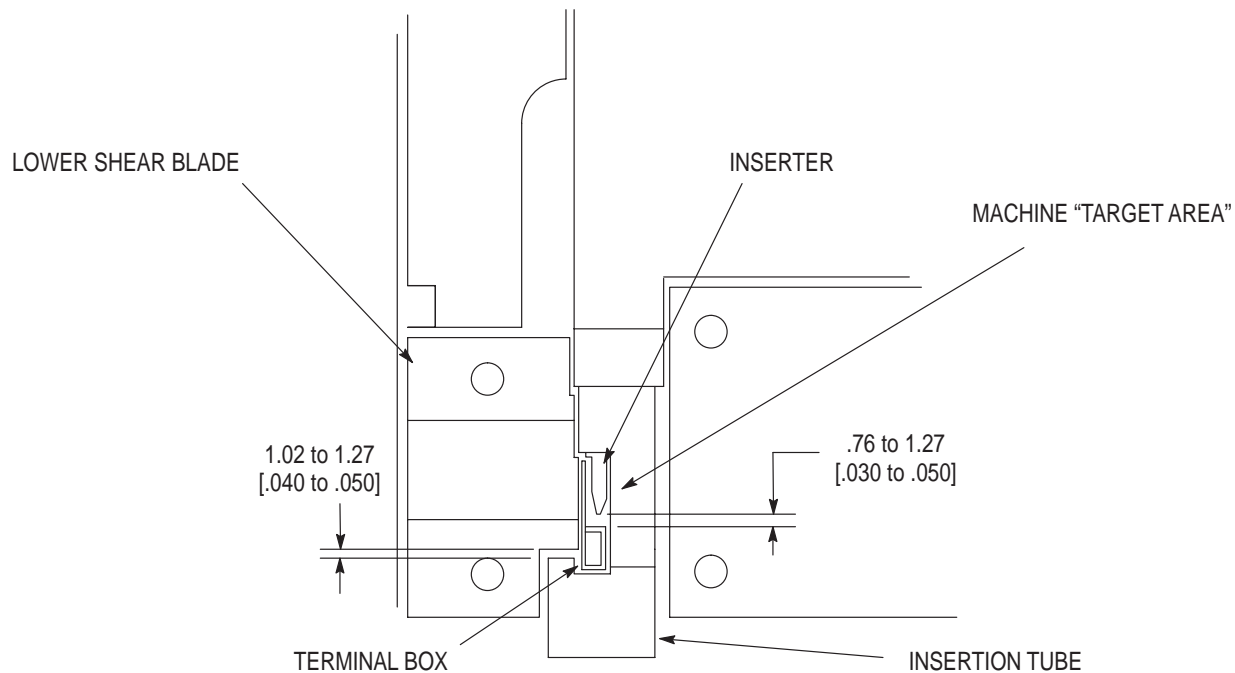

Figure 6-2. Inserter Mechanism and Target Area
3. To check the feed mechanism and shear blades for proper operation, actuate the feed cylinder several times while observing operation. This also advances the terminals into the insertion tube after being sheared. If equipped with alternate feed solenoid (L4), this function should be repeated with the module in each mode of operation. One terminal should be advanced each cycle when in the *single* mode (alternate feed solenoid de-energized). Two terminals should be advanced each cycle in the *double* mode (alternate feed solenoid energized). Terminals must be advanced far enough into the insertion tube, after being sheared, to clear the “target area” (see Figure 6-2). The terminals should be held in the insertion tube by the tube spring. Sheared terminals should have *equal* cutoff tabs on both sides. If adjustment to the feed mechanism is necessary, refer to Section 6, ADJUSTMENTS.
**CAUTION** *DO NOT allow any lubricants to enter the “target area” (see Figure 6-2) of the module. Should this occur, thoroughly clean the area immediately.*
Proper adjustment of the terminal feed mechanism is required to control positioning of the terminals when advanced into the “target area” (see Figure 6-2). The *correct* position is evidenced by equal cutoff tabs on both sides of the terminals when sheared from the terminal strip. If adjustment is required to achieve correct positioning, proceed as follows:
#### 6.4. Insertion Tube, Trim Blade, and Inserter Adjustments (Figures 6-2 and 6-3)
1. If, during check-out of feed mechanism, it is determined that the terminals are not advanced far enough, or advanced too far into the insertion tube after being sheared in the “target area” (see Figure 6-2), slightly loosen the two screws securing the terminal advance block (1), then loosen the locknut on the backup screw (2). Turn the backup screw as required to correct the terminals position in the insertion tube. The terminals should be clear of the target area, and the tube spring should be holding the terminal(s) in the insertion tube. Tighten the locknut to secure the backup screw and the two screws to secure the terminal advance block.
2. With the insertion cylinder *fully* retracted, check clearance between insertion tube and front edge of lower shear blades. This clearance must be approximately 1.016 to 1.270 mm [.040 to .050 in.] (see Figure 6-2) If adjustment is necessary, loosen locknut (3) on insertion cylinder shaft, then turn adapter on shaft as required until the proper clearance is obtained. Tighten locknut after making adjustment. Make sure that switch bracket (5) is not limiting cylinder travel. Re-adjust switch after making cylinder adjustment.
3. With a terminal(s) fed into the "target area," *but not sheared from the strip*, check clearance between tip of inserter and terminal box. Clearance **MUST** be 0.76 to 1.270 mm [.030 to .050 in.] (see Figure 6-2) with slide block (4) *back*. If clearance is not sufficient for terminal(s) to enter "target area," slightly loosen two screws that secure rear slide cover plate to the slide block (see Detail "A"). Loosen locknut and adjust setscrew on slide block until the required clearance is obtained. After adjustment, tighten locknut on setscrew and two screws to secure rear slide cover plate. See Figure 6-2.
4. If, during module check-out, it is determined that the insertion tube does not properly "pinch" the bobbin when it is extended or the clearance between the insertion tube safety stop screw (6) and the shear housing (7) is not approximately 0.762 mm [.030 in.] when bobbin is "pinched" by insertion tube, loosen the locknut on the insertion tube safety stop screw, adjust the screw until the proper clearance is obtained, and then tighten locknut.
5. If, during module check-out, it is determined that the inserter does not insert the terminals to the correct depth in the bobbin, loosen the locknut on the inserter depth adjustment screw (8) and adjust the screw as required, then tighten the locknut. Make sure that cylinder travel is not limited by switch bracket. It will now be necessary to re-adjust the switch bracket (9) as described in Paragraph 6.1 of this manual.